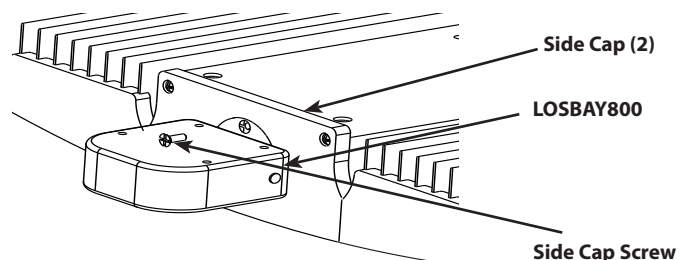

Fig. 2
6. If ordered with **LOS BAY800** sensor (suffix /LOS) or similar sensor or LightCloud™ controller, re-attach pre-wired sensor on **Side Cap** to **Housing**. Sensor can be disconnected with supplied quick disconnect connector. Tighten **Side Cap Screw** as shown in **Fig. 2**.
5. If ordered with **LOS BAY800** sensor (suffix /LOS) or similar sensor or LightCloud™ controller, re-attach pre-wired sensor on **Side Cap** to **Housing**. Sensor can be disconnected with supplied quick disconnect connector. Tighten **Side Cap Screw** as shown in **Fig. 2**.